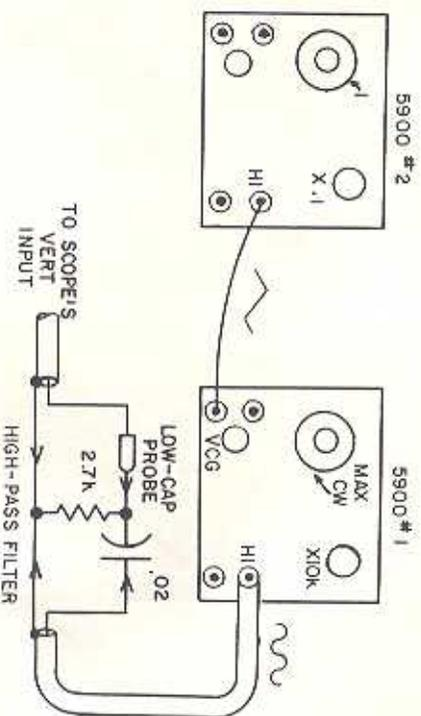

Fig. 19 To display response of High-Pass filter
- Set up the equipment as shown in Fig. 19.